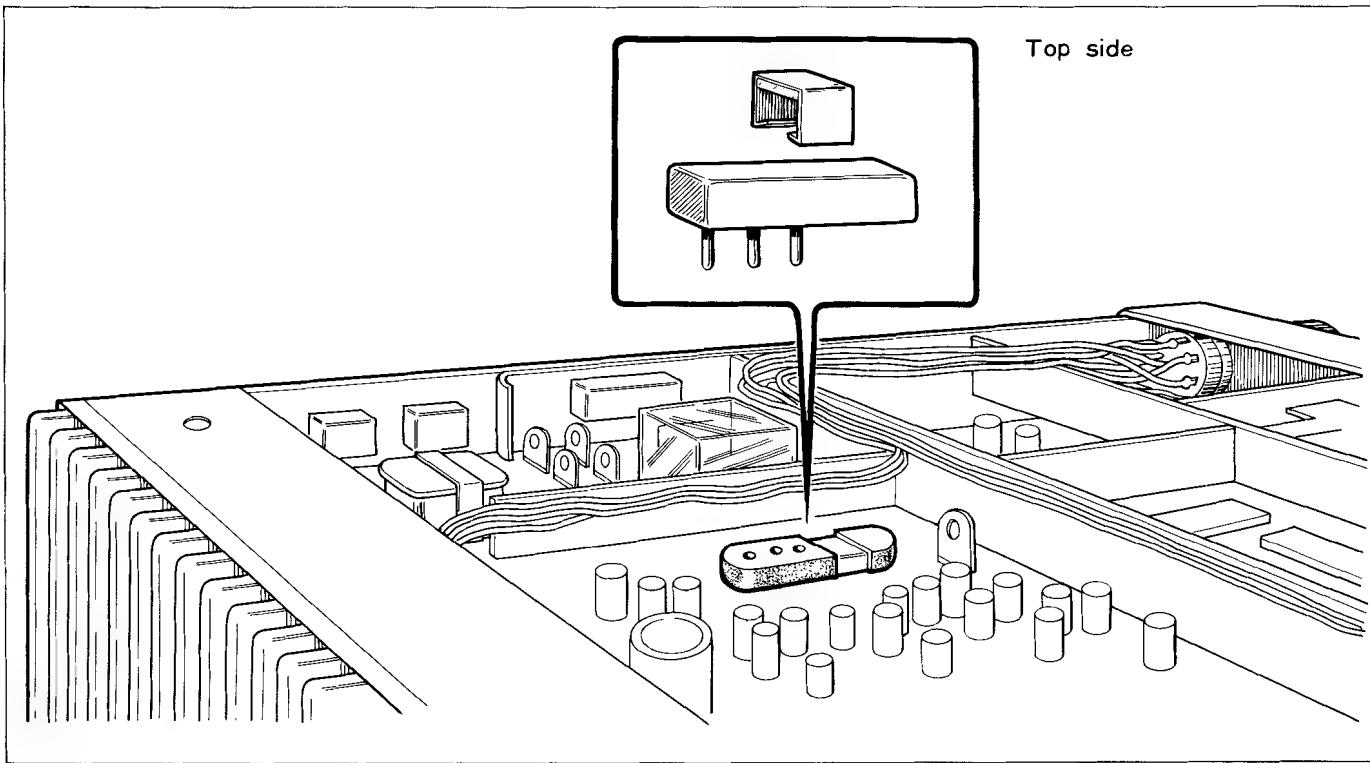

Fig. 10 How to Install the Tone Oscillator Module
In the transmit mode of operation, your transceiver superimposes an additional tone burst signal when tone burst access is desired. The tone burst signal is generated for about 0.5 seconds when a tone oscillator module (option) is plugged into the monofork socket on the TX unit (X56-1230-10) and the microphone push-to-talk switch is depressed for transmit as illustrated in Fig. 10. For example, if you make use of a repeater station which receives a 146.34 MHz incoming signal, transmits a 146.94 MHz signal, and uses a 1,800 Hz tone burst access, install an 1,800 Hz tone burst module into the TX unit as illustrated in Fig. 10. Second, set the TX OFFSET Switch (17) to -600. Then, you can operate through this repeater. You may select any desired tone burst frequency from those listed as options available for the TR-7400A in Table 2.